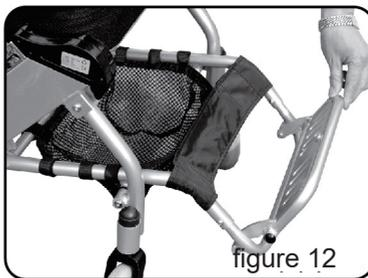

figure 12
5.1.6 Fold down the footrest forward completely (figure 12).
3. Turn the footrest upward (figure 12)